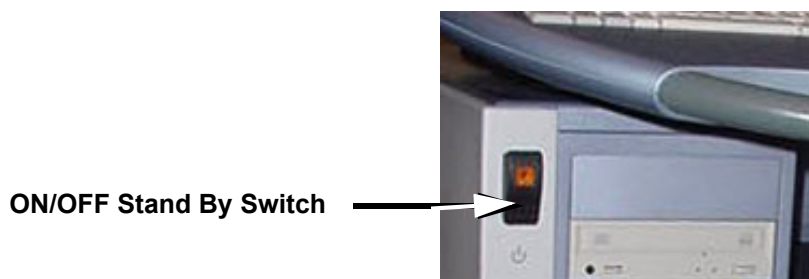

Figure 3-9 ON/OFF Stand-By Switch
- 1.) Press the **ON/OFF** Stand-By switch left below the Control Panel once. Figure 3-9